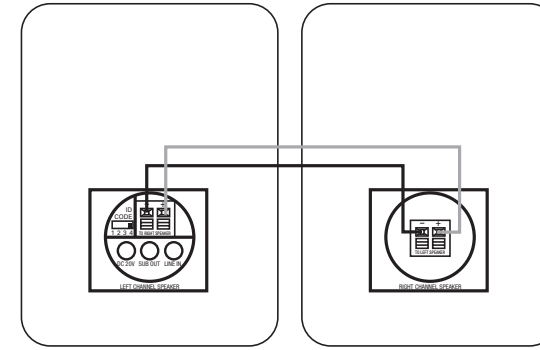

Figure 3.
See Figure 3. Please note that the speaker wire supplied features a polarity stripe to help distinguish its two conductors. Use this polarity stripe to ensure that you are connecting the positive (+) terminal on one speaker to the positive (+) terminal on the other, and the negative (-) to the negative (-). It does not matter whether you use the striped conductor for connecting the positive (+) terminals or the negative (-) terminals.
Step 3. Connect the speaker wire (included) to the push terminals on the active speaker 6 and the push terminals on the rear of the passive speaker 10, as shown in Figure 3. Please note that the speaker wire supplied features a polarity stripe to help distinguish its two conductors. Use this polarity stripe to ensure that you are connecting the positive (+) terminal on one speaker to the positive (+) terminal on the other, and the negative (-) to the negative (-). It does not matter whether you use the striped conductor for connecting the positive (+) terminals or the negative (-) terminals.
Step 3. Connect the speaker wire (included) to the push terminals on the active speaker 6 and the push terminals on the rear of the passive speaker 10, as shown in Figure 3. Please note that the speaker wire supplied features a polarity stripe to help distinguish its two conductors. Use this polarity stripe to ensure that you are connecting the positive (+) terminal on one speaker to the positive (+) terminal on the other, and the negative (–) to the negative (–). It does not matter whether you use the striped conductor for connecting the positive (+) terminals or the negative (–) terminals.